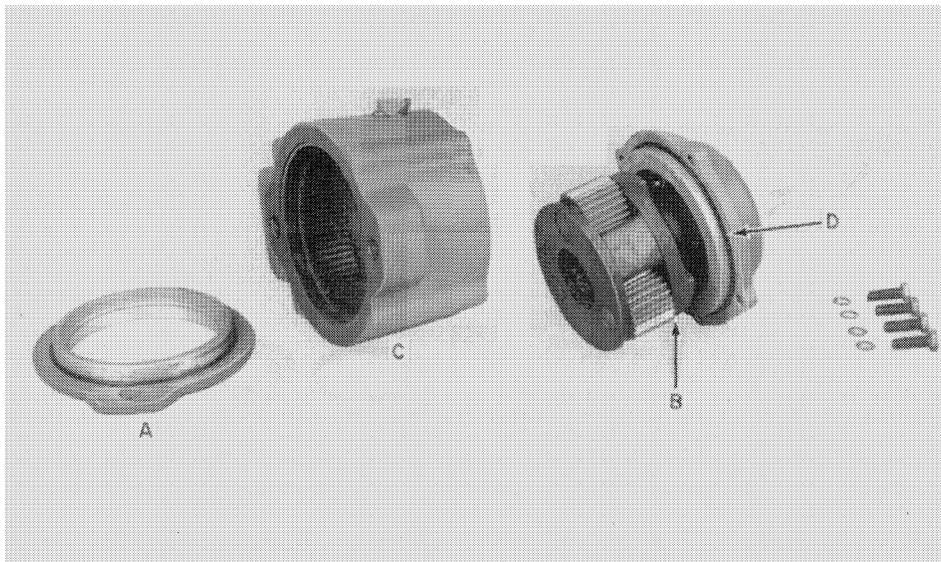

FIGURE 14
1. Remove adaptor plate, A, Figure 14, from housing. Remove O-ring from adapter plate.
2. Remove four cap screws and remove front plate and planetary gear assembly, B, Figure 14, from housing. Remove O-ring from front plate.
2. Examine gear teeth and internal teeth in housing, C, Figure 14. The teeth should show no signs of excessive wear. Worn parts must be replaced.
5. Install new O-ring on face of front plate at D, Figure 14, and install assembly into housing. Secure with four cap screws and washers and tighten to 15-18 ft. lbs. (20-24 N·m) torque.
6. Install new O-ring on face of adapter plate, A, Figure 14, and install on housing assembly. Secure plate with two cap screws and tighten to 55-60 ft. lbs. (74-81 N·m) torque.